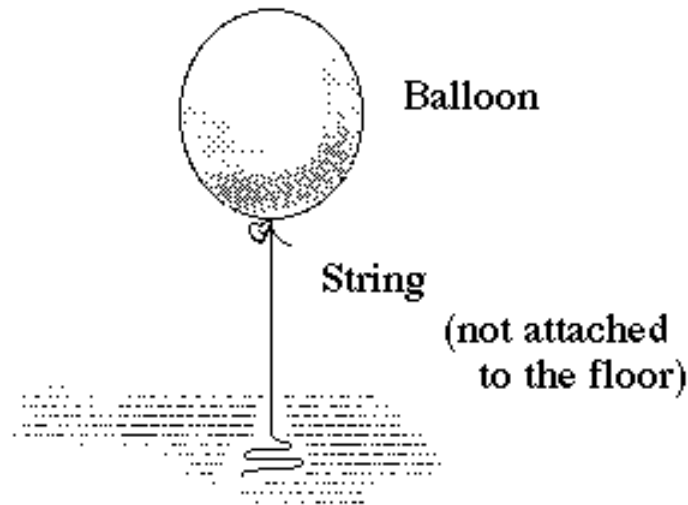

Figure 1: Hovering Balloon
1. Reconsider the problem of the hovering balloon which was discussed in Practice Session 4. A string dangling from a helium-filled balloon has its free end resting on the floor as shown in Fig.1. As a result the balloon hovers at a fixed height off the floor and when it is deflected a little from that height it oscillates up and down for a while, eventually returning to the same height. Develop the simplest mathematical model competent to describe the vertical motion of the balloon. You may take all the elements of your model to be linear. Show that your model is competent to describe the observed hovering behavior.